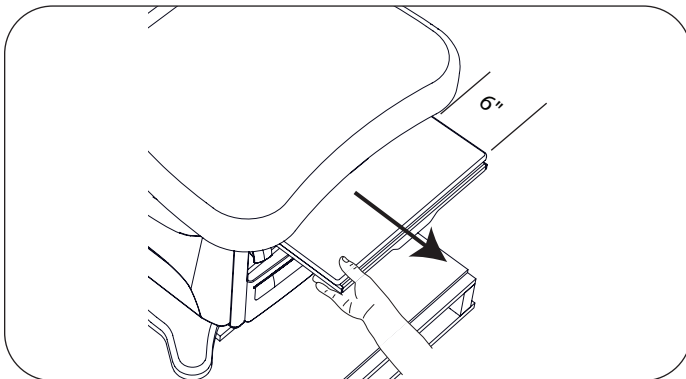

Figure 15. Leg Support Pulled Out 6"
16. Prepare the front of the table for lifting by pulling out leg support approximately 6" (Figure 15). DO NOT fully extend leg support as damage to the slide mechanism may occur.